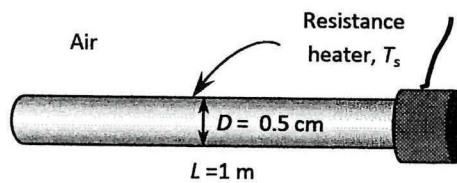

Figure Q3(c)
- (c) A 400-W cylindrical resistance heater is 1 m long and 0.5 cm in diameter as shown in **Figure Q3(c)**. The resistance wire is placed horizontally in a fluid at 20°C. Ignore any heat transfer by radiation. Use properties at 500°C for air. Determine the outer surface temperature of the resistance wire in steady operation if the fluid is